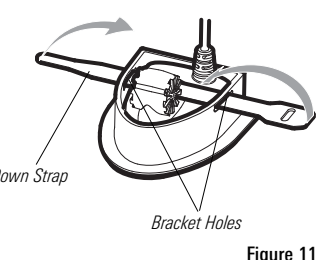

Figure 11
8. Thread the tie-down strap (included) through the bracket holes, and connect both ends of the strap over the top by looping the small end through the tie-down strap hole. Make sure that the strap is pulled tight around the transducer and that the transducer is seated securely in the bracket (Figure 11).